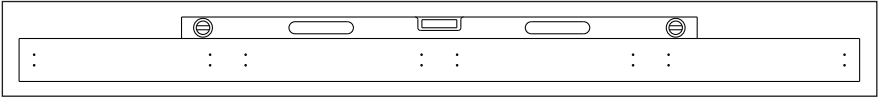

Figure 3: Level First Wall Tube
- h. Level the wall tube and attach the tube to the wall with four 1/4" ITW® Buildex® self-drilling TEK screws of sufficient length at each stud location. Refer to **Figure 3** and to the contract-specific Shop Drawing for specific TEK screw length and fastening schedule.